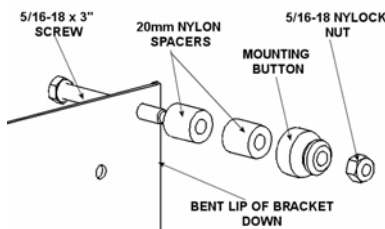
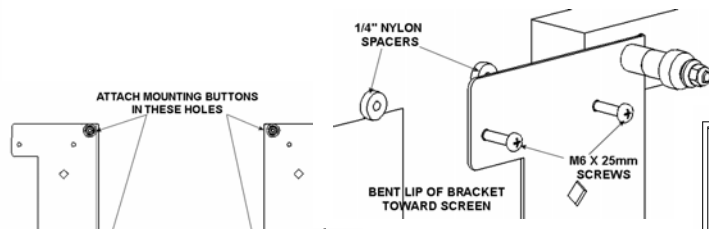
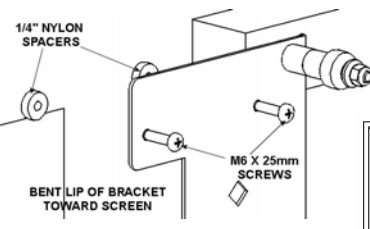
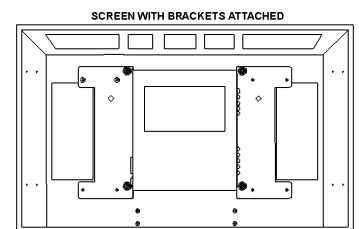

Figure 2
Figure 3
Figure 4
Figure 5
1. Using a 5/16-18 x 3" hex head screw inserted from back, bent lip side of bracket, secure each mounting button with two 20mm Nylon spacers under the button to bracket (four places) using the 5/16-18 Nylock nuts (see Figure 2 & Figure 3). For units without a power box on the back of the screen, use the 1-1/2 hex head screws without the spacers.
2. Align the hole pattern on the brackets with the pattern on the back of the display and attach using enclosed Philips head screws with one 1/4" spacer under the bracket at each mounting point (see Figure 3, Figure 4, & Figure 5).